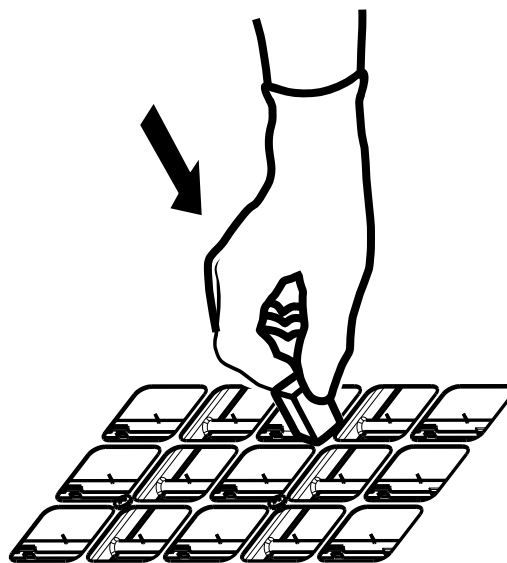

Figure 27. Push block of foam down over FIELD CHARGER Pin
5. Push a block of foam down over the FIELD CHARGER Pin as in Figure 27.